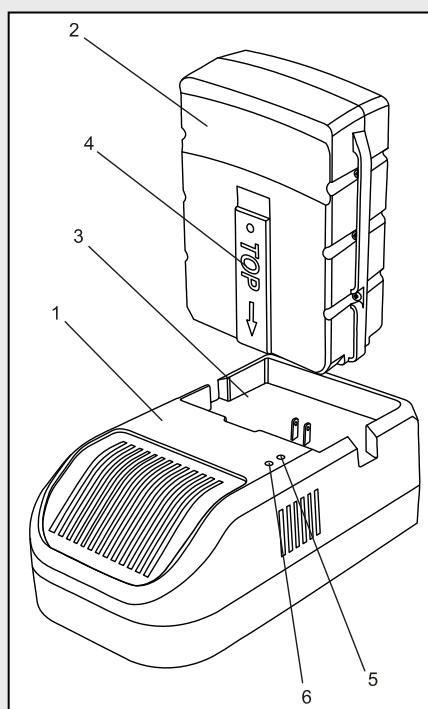

Fig. 1
1. To charge the CORE™ Power Cell, place the charger (1) in a dry location near a 120 V AC, 60 Hz electrical outlet and plug it into the outlet (Fig. 1).